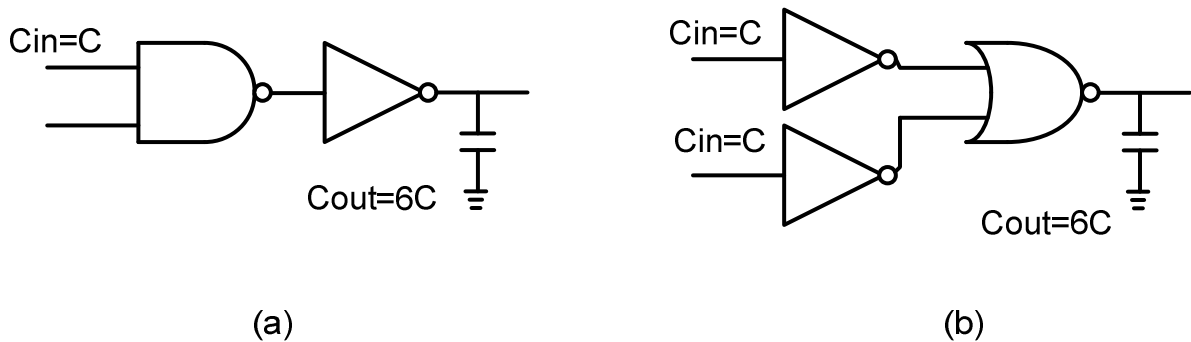

Figure 3
3. Consider the circuits in Figure 3, both implementing a 2-input AND. What is the path effort of each design? What is the total delay of each design? Which will be faster? Compute the sizes of each logic gate to achieve minimal delay. [14 points]